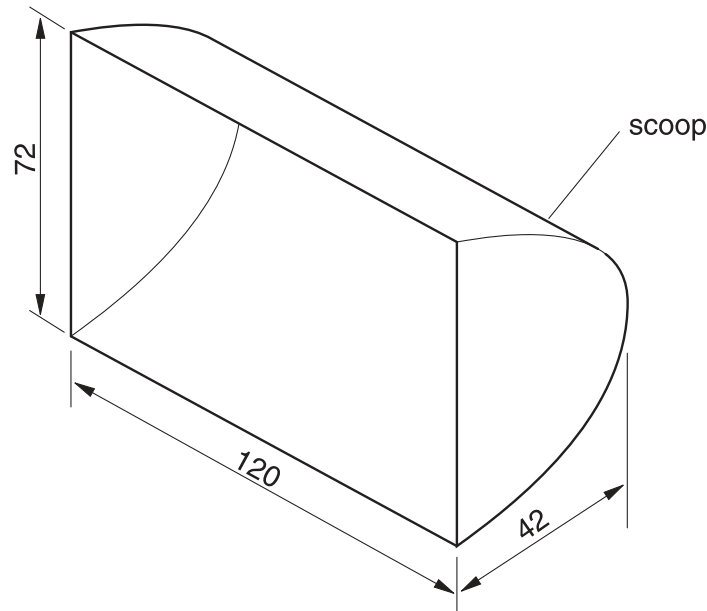

Fig. 6
- 6 Fig. 6 gives details of a scoop for a toy bulldozer. The scoop is made in one piece from thin plastic sheet using vacuum forming.